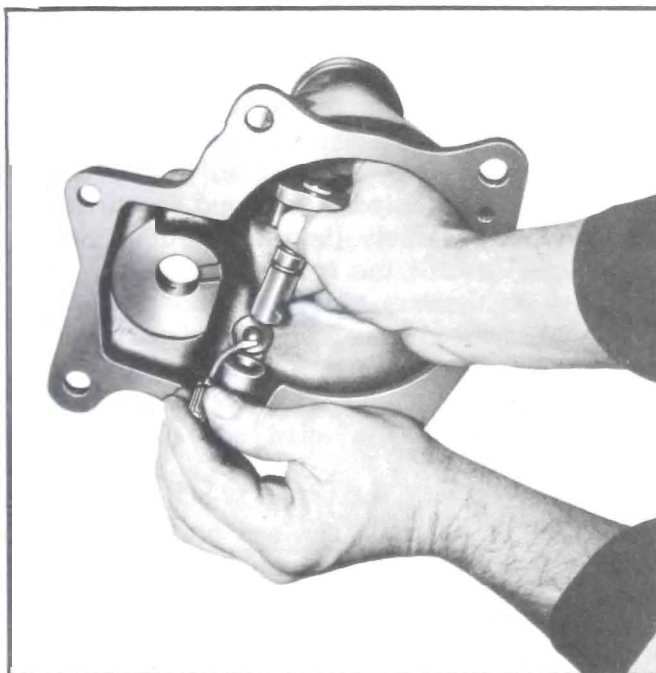

Figure 4-56—Installing Reverse Shifter Shaft
5. Place detent ball on spring and, holding ball down with a suitable tool (see fig. 4-56), push the shifter shaft into place and turn; the ball drops into place in detent on shaft detent plate.